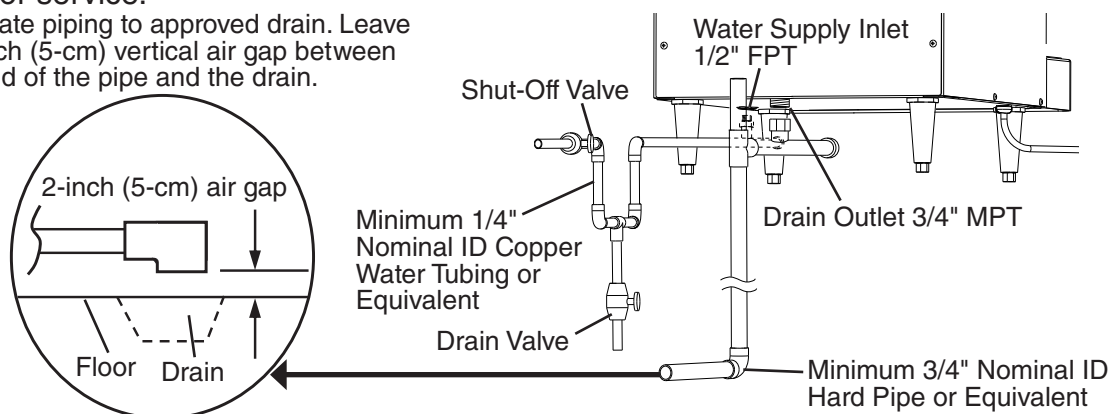

Fig. 3
See Fig. 3
- 2) Open the water supply line shut-off valve. See Fig. 3.
- 1) Close the water supply line shut-off valve. See Fig. 3.